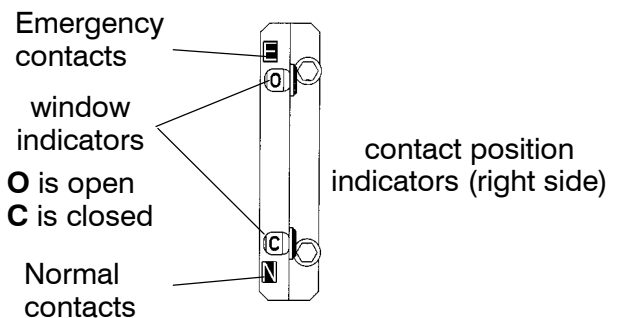

Figure 1-3. Maintenance handle operation and contact position indicators.
1. After deenergizing both power sources, open the enclosure door. Locate and remove the maintenance handle from the clips on the left side of the transfer switch frame. Insert the handle into the hole in the molded hub on the left side of the operator. See Figures 1-3 and 1-4 and Table B.